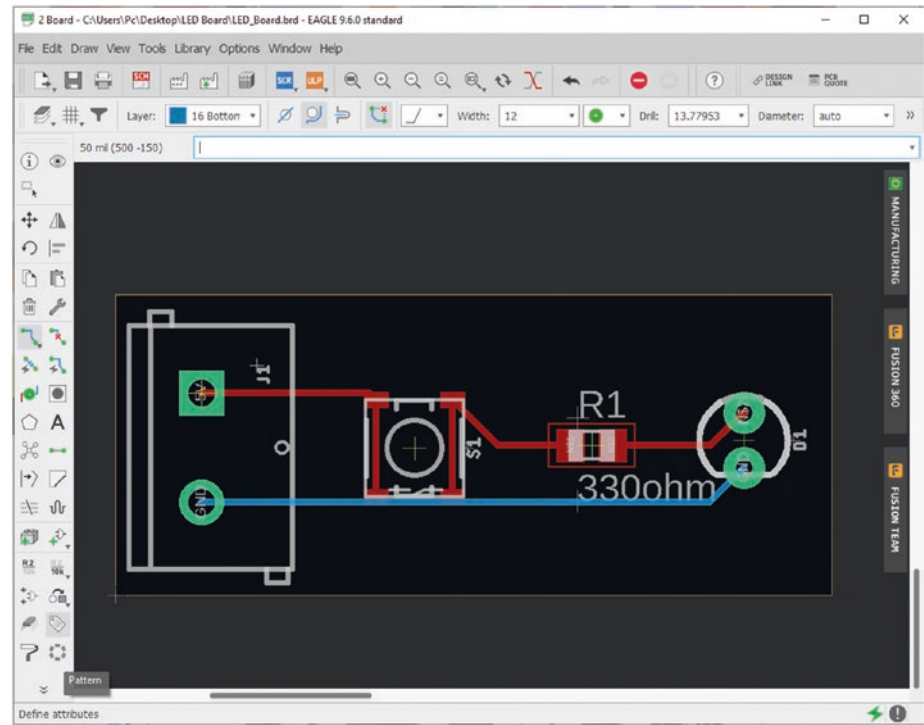

Figure 5-78. *Final board*
27. The board is now ready to be made into a Gerber file. See Figure 5-78.